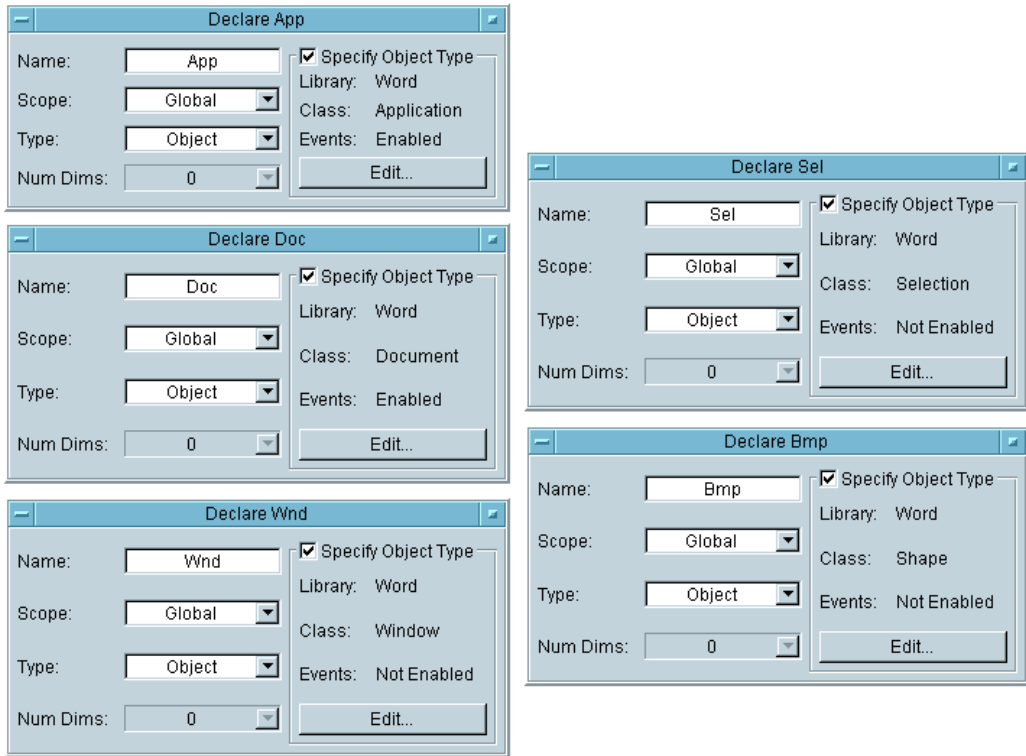

Figure 163 Object Variables
- e Select Enable Events where the class permits it. Iconize these five icons. See Figure 163 for the open view of these variables.